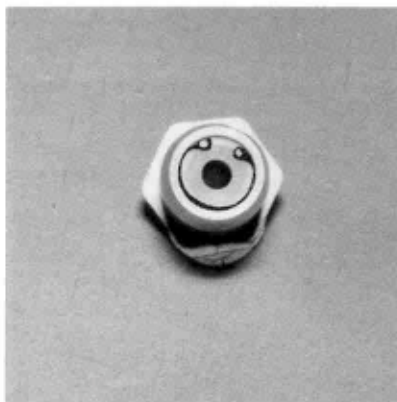

Fig. 57
□ **Fig. 57**— Make sure the "C"-clip is fully seated in the groove as shown in the photo, otherwise the shock can come apart.